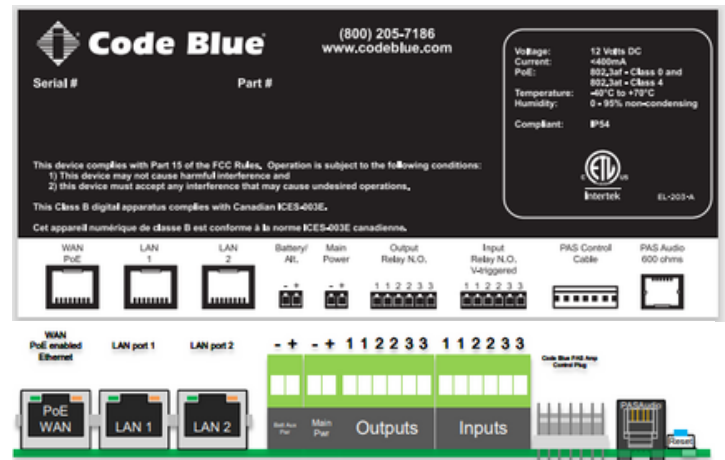

Figure 2 - Speakerphone Input Locations
- **Black Wire w/ 7 Pin Connector** – Connect to 7 Pin Input on Phone Board (See Figure 2 for phone inputs)
- **Gray 4 Pin RJ 11 Cable**- Connect to PAS Audio Input on Phone Board. (See Figure 2 for phone inputs)